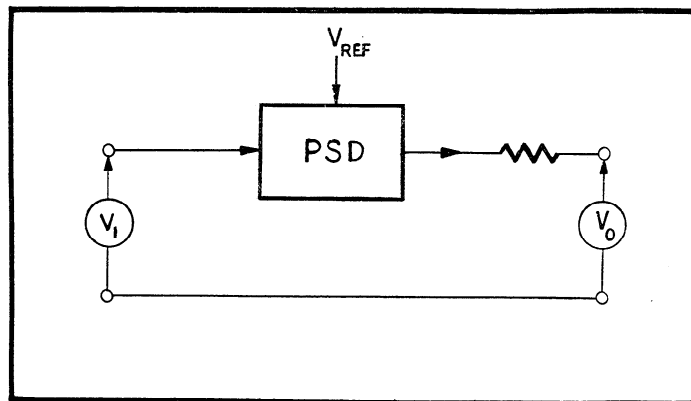
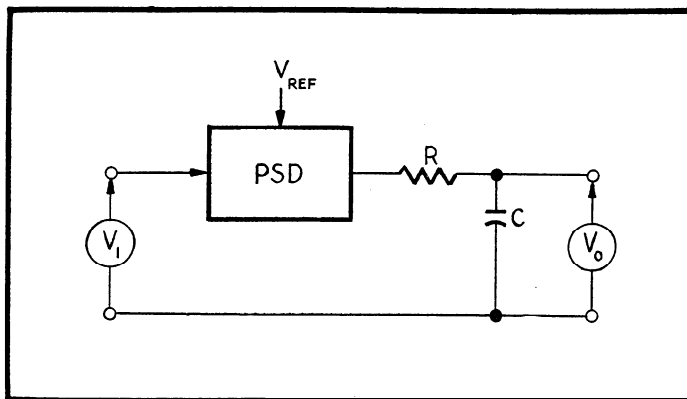
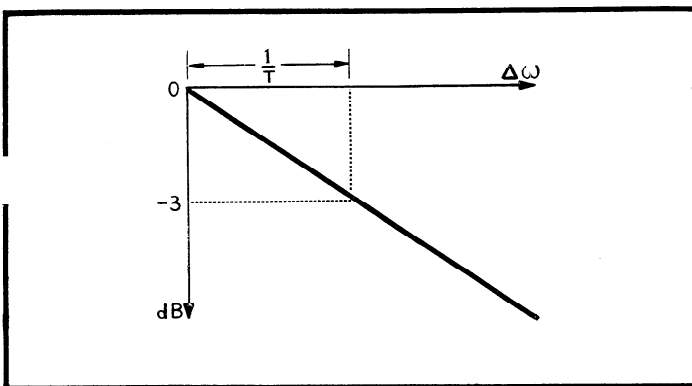

FIGURE 4. PSD as a Voltage Controlled Gate.
FIGURE 6. Time Constant.
FIGURE 8. Response of Output Circuit.
a. Phase Sensitive Detection. The measurement of ac signals (0.1 Hz to 100 kHz) is largely affected by the presence of random noise, the limiting factor to resolution in measurement of small signals. An effective solution to this problem is the use of phase-sensitive detection. The phase-sensitive detector is a device which can be represented by the diagram in Figure 4. The reference voltage (from an oscillator, chopper, or switch) drives a gating circuit (demodulator) such that the input signal V_S is chopped at the reference frequency. When the reference and signal are of the same frequency and phase, the psd acts as a voltage rectifier and gives a mean direct voltage proportional to the amplitude of the signal voltage. When the reference and signal are out of phase the dc output is reversed. Quadrature signals produce a zero mean output. For signal-recovery purposes, an R-C filter is placed across the output as in Figure 6 so as to attenuate the ac output ripple of the psd. The degree of attenuation depends on the time constant given by the capacitor and the output resistance of the psd. The response of the R-C filtering is shown in Figure 8. Since the bandwidth is not dependent on the operating frequency the amount of filtering can be increased as far as practical using a simple R-C circuit. Since the psd has a "lock-in frequency" property it maintains the center of the psd response at the signal or reference frequency. This can be useful in experiments where the bandwidth might need to be set to 0.1 Hz even though the chopping frequency might vary by ± 1 Hz.
The results of Equation 3 can be represented by an output response as shown in Figure 8.